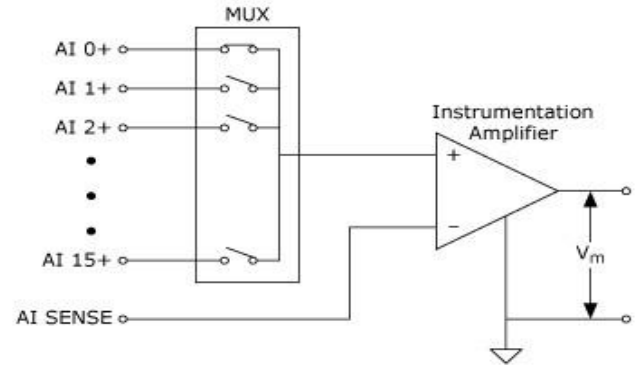

Figure 8: NRSE Measurement System
- b. none-referenced Single-ended (NRSE): all measurements in Figure 8 are still made with respect to a single-node Analog Input Sense (AI SENSE), but the potential at this node can vary with respect to the measurement system ground. NRSE measurement system is the same as a single-channel differential measurement system.